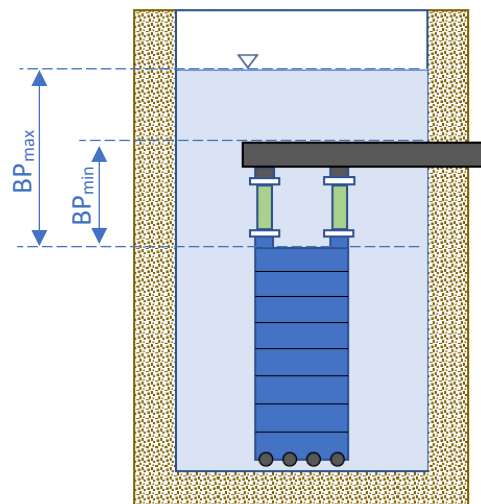

Figure 1: Submerged membranes in tank; Water level BP_{max} to be always $> BP_{min}$;
3. Filtration tank shall be filled with water, either treated unfiltered water or filtered water, and the membranes fully wetted and fully submerged with water to level BP_{max} above the membranes (see figure 1).
5. During the following three (3) minutes, the pressure decay shall not exceed 0.012 psi/min (0.83 mbar/min) or a total loss of 0.036 psi (2.49 mbar) in three minutes.